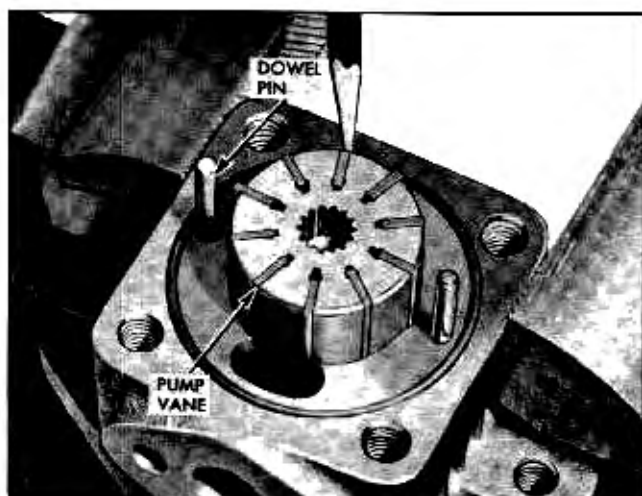

Fig. 9-75 Removing Pump Vanes
10. Remove ten pump vanes (Fig. 9-75).